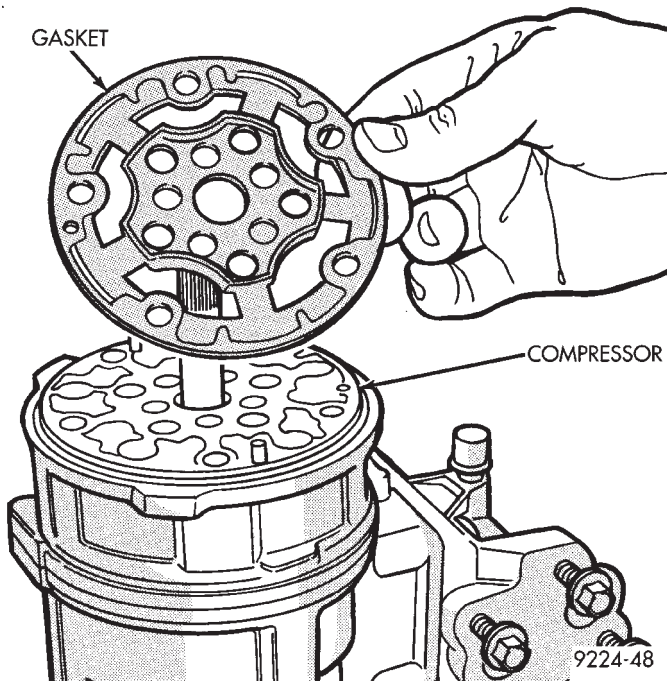

Fig. 9 Removing Steel Valve Plate Gasket
(6) Remove and discard steel valve plate gasket and O-ring seal (Fig. 9 and 10).